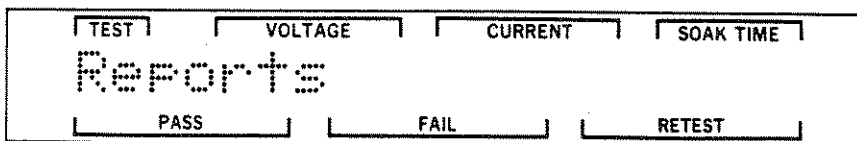

Figure 7-53. Printed Reports Entry Screen
STEP 28. Press the UP or DOWN pushbutton until the Printed Reports Entry screen is displayed. Figure 7-53 is an illustration of this screen.